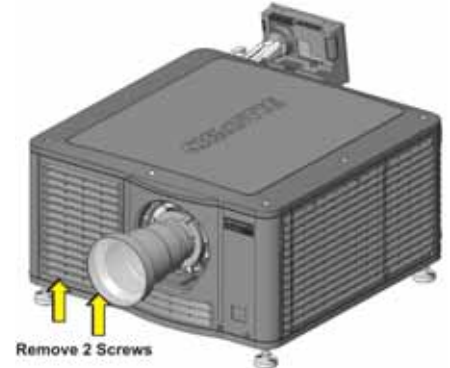

Figure 5-1 Remove Air Filter Cover
1. Use a #2 Phillips™ to loosen the two captive screws at the bottom of the filter (**Figure 5-1**).